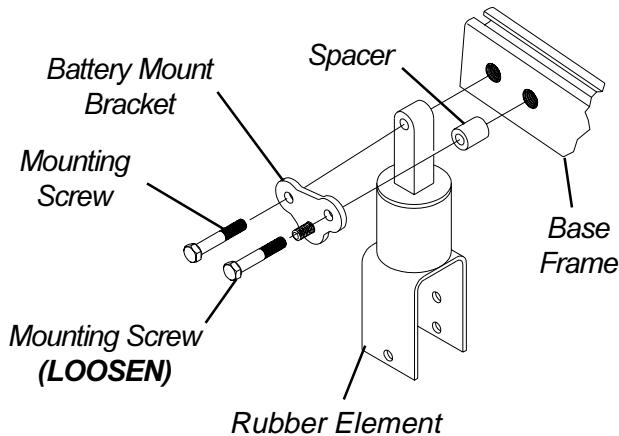

FIGURE 7 - RUBBER ELEMENT REPLACEMENT
**RUBBER ELEMENT REPLACEMENT (FIGURE 7)**
6. Remove the three (3) mounting screws and locknuts that secure the bottom of the rubber element to the rubber element mount bracket.
8. Resecure the bottom of the rubber element to the rubber element mount bracket with the existing three (3) mounting screws. Use Loctite 242 and torque to 160-inch pounds.